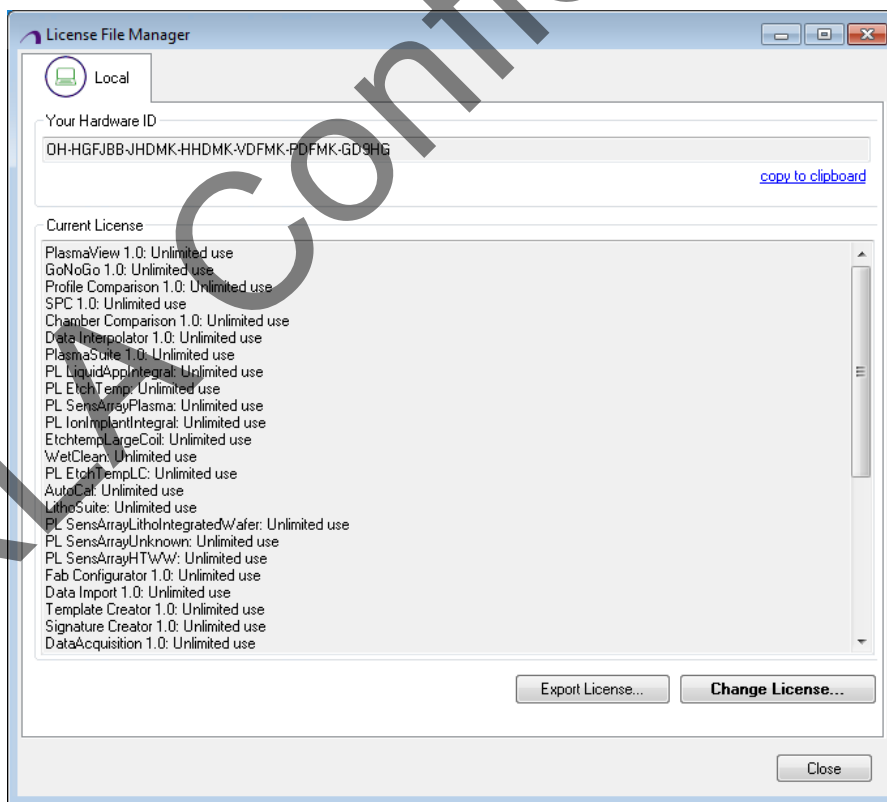

Figure 5-4 License File Manager Window
1. Click **Tools** on the **SAT** launcher menu bar, then click the **License File Manager** option. You can see the License File Manager window opens, as shown in Figure 5-4.